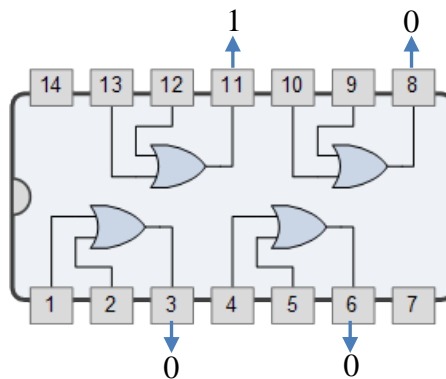

Figure 3(b)
- (i) Power dissipation,  $P_{D(max)}$  on a DM74LS32 IC when the output condition is as shown in Figure 3(b). Assume that the  $V_{CC}$  used is maximum. (3 marks)